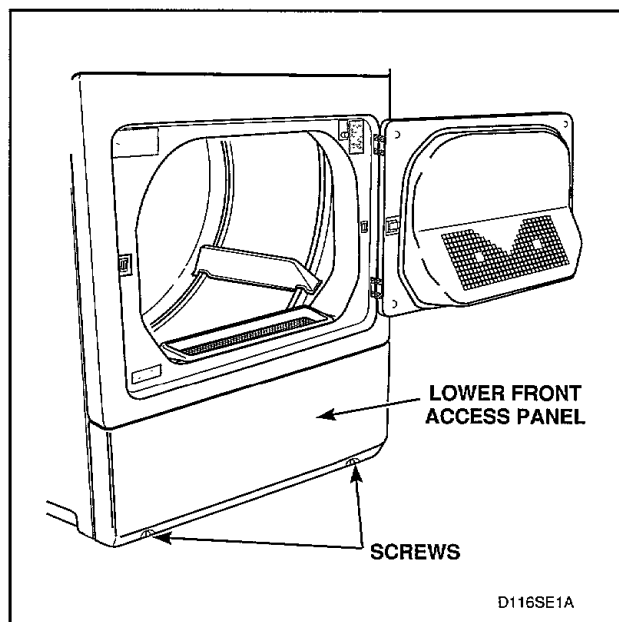

Figure 9
- While supporting the lower access panel, remove the lower front access panel from both the upper and lower dryers by removing the two screws from the bottom edge of each access panel, *Figure 9*.
- While supporting the lower access panel, remove two screws from bottom edge of lower front access panel, *Figure 9*.